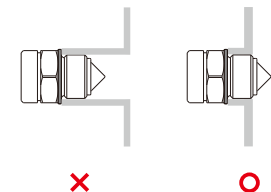

Fig.6
- This product is not recommended for organic solution especially for viscous liquid which easy to stick on the optical surface (Fig.6.)